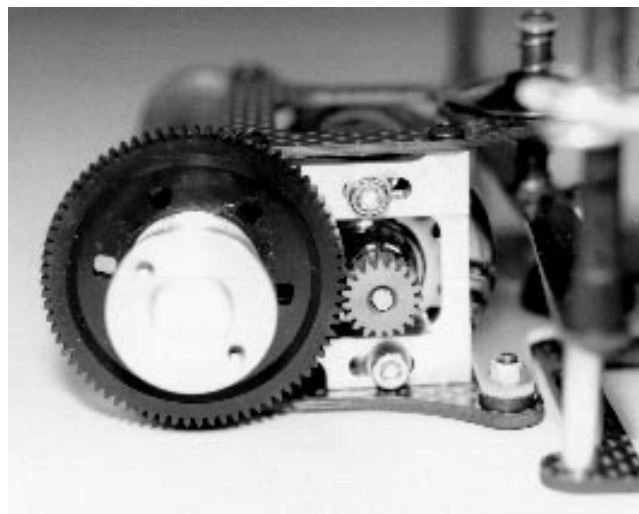

Fig. 74
**Fig. 74** Now we need to set the gear mesh. This is accomplished by moving the motor forward or back. This moves the pinion gear closer to or further away from the spur gear. What we want to accomplish is to get the metal pinion gear as close to the spur gear as possible, but without binding the gears. The easiest way to check this is to put your finger on the nylon spur gear. See if you can rock the spur gear teeth back and forth (lightly) between the pinion gear teeth without making the pinion gear move. We want the gears meshed as close as possible but still have the ability to rock the spur gear. When you have the spacing correct you can tighten down the two #6515 3mm screws. Now recheck the gear mesh to make sure nothing moved when you tightened down the screws. It is important to keep in mind that a tight gear mesh will result in a high power loss. A loose gear mesh can result in stripping off the spur gear teeth. So take your time. **WARNING! The gold colored motor screws are metric. The coloring was done to prevent mixing up the motor screws with the standard black 4-40 screws used in the rest of the kit. Accidentally using the 4-40 screws in the motor will strip out the mounting holes in the motor can. This damage to the motor can cannot be corrected except by replacing the motor.**